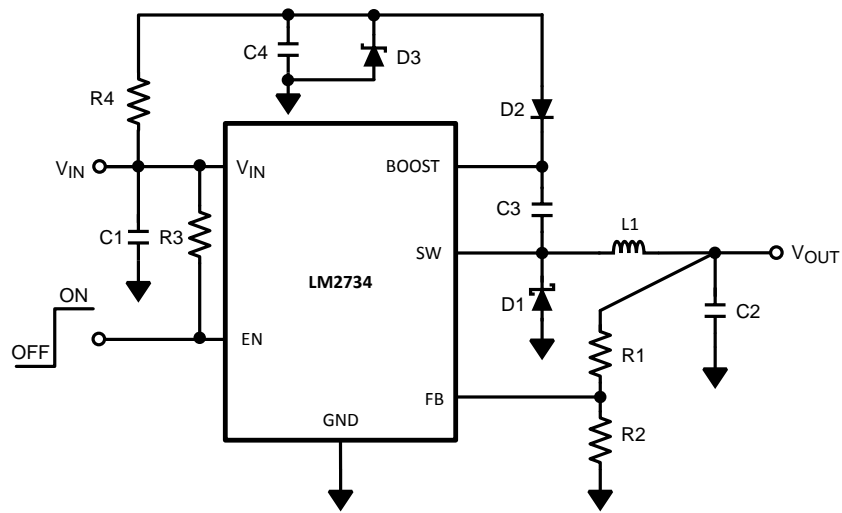

Figure 17.  $V_{BOOST}$  Derived from  $V_{SHUNT}$
**Table 7. Bill of Materials for Figure 17**